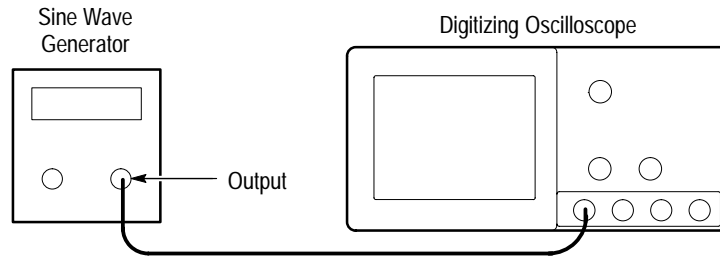

Figure 1–6: Initial Test Hookup
- Connect the sine wave output of a sine wave generator to **CH 1** (see Figure 1–6). Set the output of the generator to a reference frequency of 10 MHz or less.